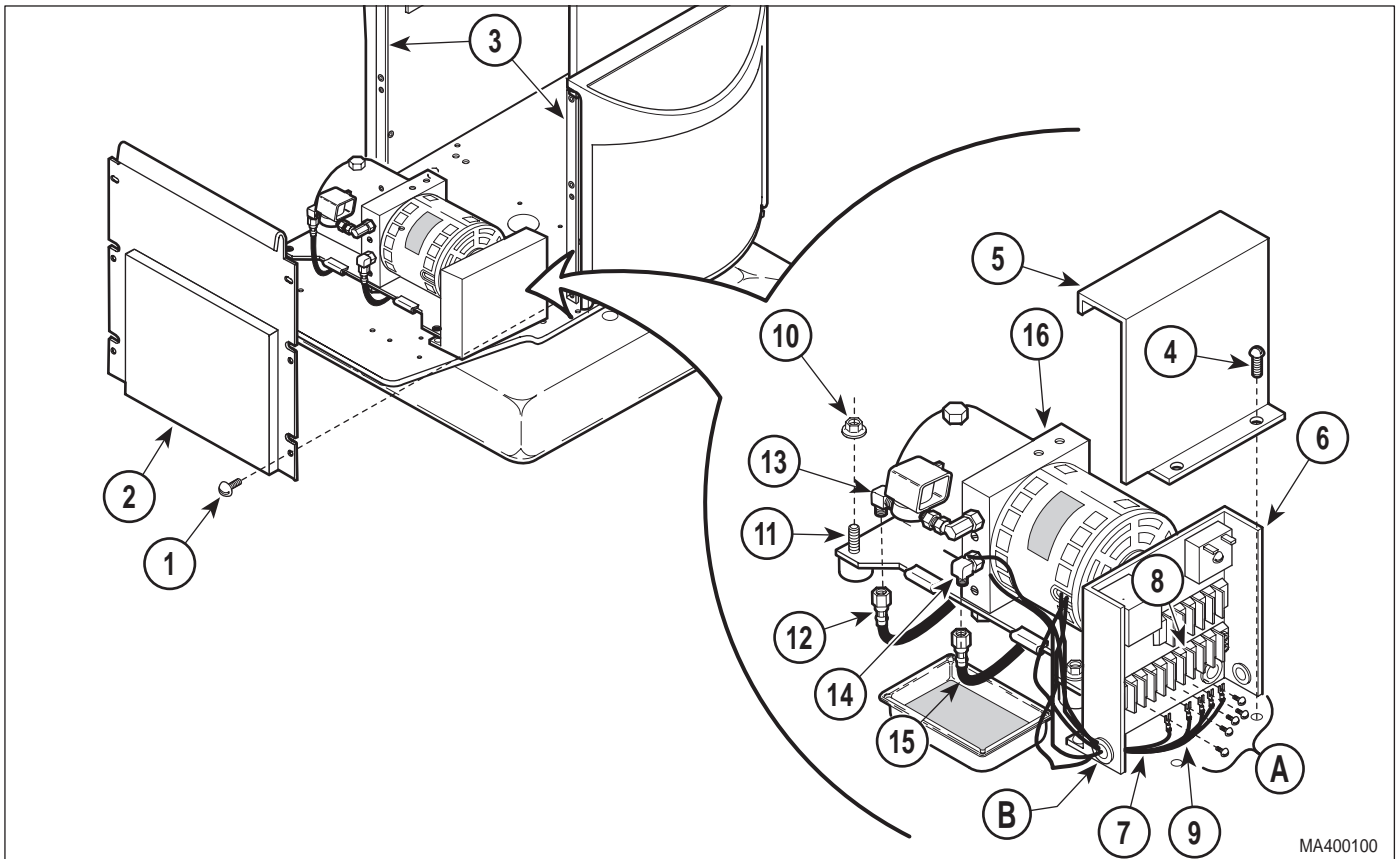

Figure 4-8. Motor Pump Assembly - Complete Removal / Installation
- (1) Unplug table power cord from outlet.
- (2) Remove motor cover (Refer to para 4.2).
- (3) Remove four screws (1, Figure 4-8) and back out shroud (2) from left and right hand outer shrouds (3).